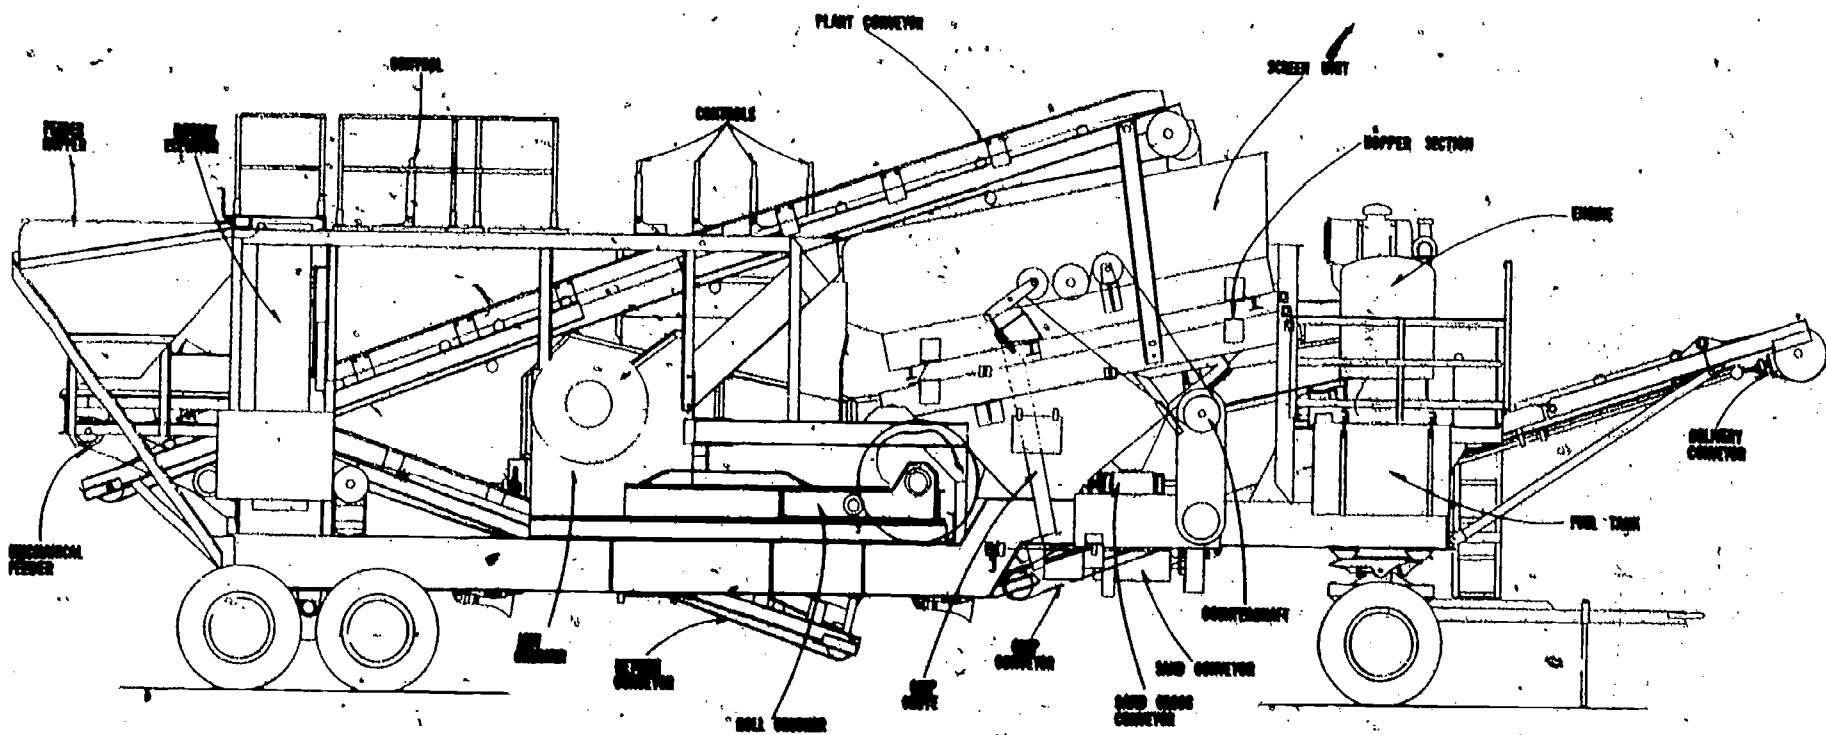
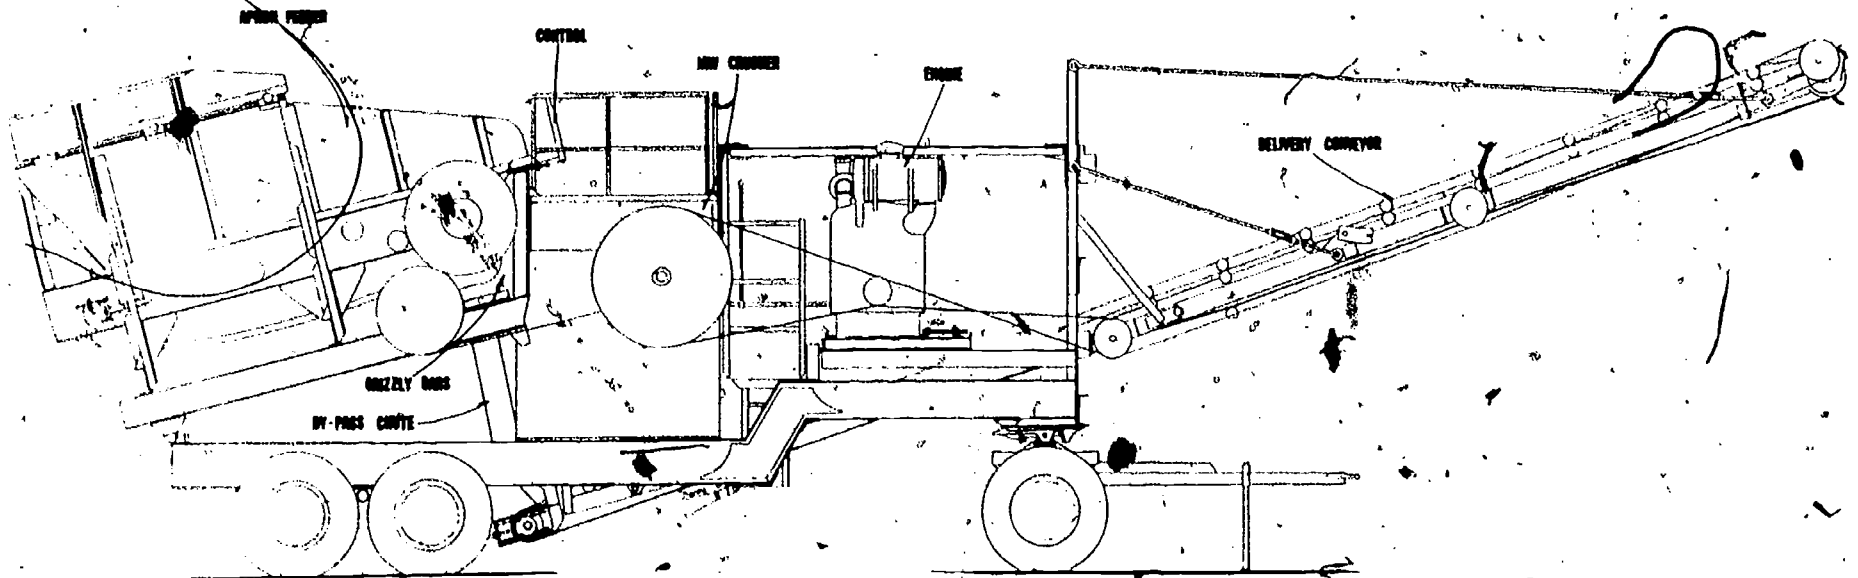

Fig 6-12. Model 101-S secondary plant--component parts.
Fig 6-14. Model 2036 primary plant.
- (2) **Roll crusher** (figs 6-12 & 6-13). The roll crusher is simply two heavy manganese shells that revolve on stationary shafts. The surface of the shells can be smooth or stepped, or may be a combination with one smooth and one stepped. The shells are driven by star gears. The openings between the shells are changed by shims held in place by compression springs. These springs act as safety releases when uncrushable material enters the roll crusher (fig 6-12).
- (3) **Screen unit.** The screen unit consists of a number of screen decks, usually two, although there may be more or fewer inside a screen body. This body, in turn rests inside a main frame. An eccentric shaft, much like the one on the jaw crusher, is connected to the screen body. The body, in turn, vibrates all screen decks at one time. An equalizer assembly rigidly connects the opposite ends of the screen body and gives the body the controlled circular action established by the eccentric shaft. One end of the screen body is set lower than the other. As material is dropped onto the deck, it either falls through to the next screen level or goes to the jaw crusher. The material that goes to the second deck either falls through to the next deck or goes to the roll crusher. The material that goes to the lower deck is ready for the final separation. Material smaller than the correct size falls through the screen, while correct-size material goes to the final product conveyor (fig 6-12).
- (4) Hopper section. The hopper section is immediately below the final screen deck (fig 6-12), and receives the finished products. A pair of adjustable vanes permit either total separation of correct-size stone from undersized material or a mixing of the two in any proportion. The hopper delivers the final products to the delivery or reject conveyor, or both, depending on the vane setting.
- (5) Power units. The power units set crosswise on the plant frame and provide the power to run all drives. A GM 6-71 6914BN engine powers each unit.
- (6) Apron feeder. The apron feeder is the starting point for material in the primary plant. Material in the hopper is carried toward the crusher by a slow-moving steel apron. The operator can control the amount of material going into the crusher by starting and stopping the apron, and thus eliminate overloading of the crusher jaws. As the material reaches the end of the apron, it falls onto the grizzly (a screen made of heavy bars). Material too large to pass through the grizzly slides down into the crusher. Material that passes through the grizzly is small enough to be handled by a secondary plant and therefore need not be crushed by the primary plant (fig 6-14).
- (7) Conveyors. Conveyors are used for transporting material to and from the plants as well as from one point to another within the plants (figs 6-12 & 6-14).
- (8) Rotary elevator. The rotary elevator, found on the secondary plant, is simply a large wheel with steps around its inner circumference. Material from a conveyor is dumped into it while it is turning. The material is caught in a step and carried upward as the wheel revolves. At the top of the revolution the material falls out of the wheel, by gravity, onto another conveyor (fig 6-12).
- (9) Mechanical feeder. The mechanical feeder can be used on the supplying conveyor for either a primary or a secondary plant. As the material is dumped into the hopper, it in turn is evenly distributed on the feed conveyor. The amount of material supplied to the conveyor is controlled by a swinging gate. It will open wide to allow large rocks to pass and return to its original position to regulate the flow of material.